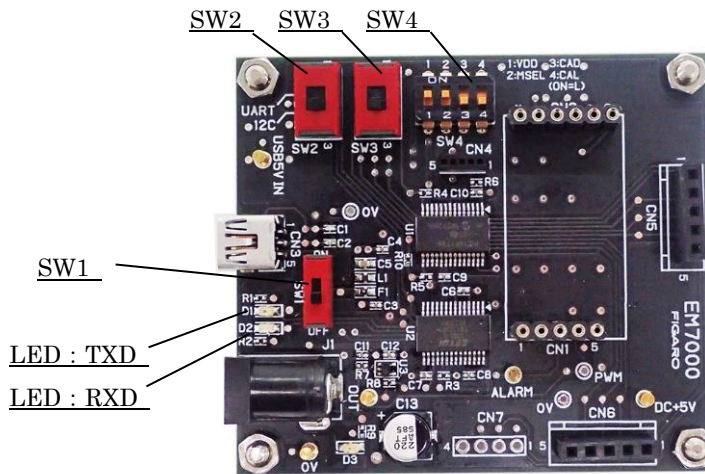

Figure 2 - I2C Communication Settings
- SW2, SW3: Set to the position for I2C (lower position as seen in Figure 2).
- SW4-1, SW4-2: Set to ON position (upper position as seen in Figure 2).
- SW4-3, SW4-4: Set to OFF position (lower position as seen in Figure 2).